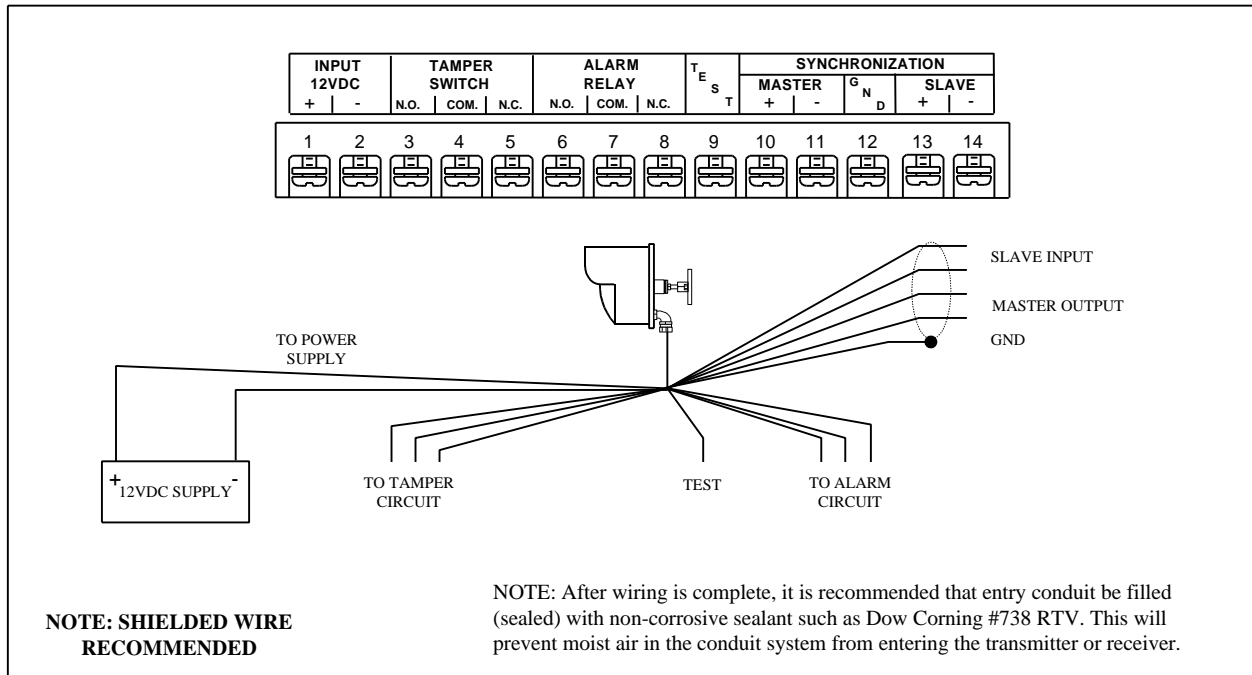

Figure 15
Southwest Microwave recommends two optional power supply combinations. Model PS50 .3 Amp Power Supply with Model BA30 6.5 AH battery will power one Model 385 Transceiver. Model PS50 may be mounted either indoors or outdoors in a weatherproof enclosure such as Southwest Microwave Model BX15. Model PS40 1.6 Amp Power Supply with Model BA30 6.5 AH battery will power up to six Model 385 Transceivers (with proper wiring per Figure 15). Model PS40 may be mounted either indoors or outdoors in a weatherproof enclosure such as Southwest Microwave Model BX20 or BX35.
- 3) Make connections to the terminal strip according to labeled terminal functions. (See Figure 15.)